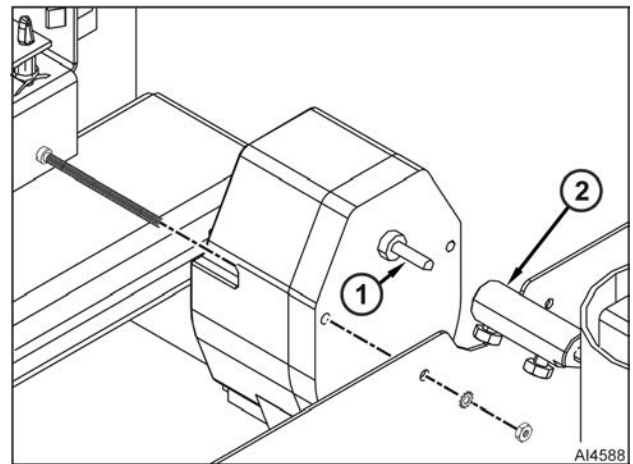

Fig. 33
3. Loosen bolt that secures coupling (2, Fig. 33) to vent motor shaft (1, Fig. 33).
5. Reverse procedure to install. Rotate coupling shaft (1, Fig. 33) to make sure vent (2, Fig. 33) goes up and down.